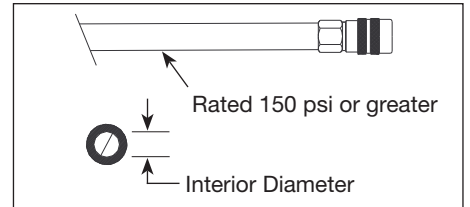

Figure 7 - Air Hose Requirements
**AIR SUPPLY HOSE:** ALWAYS use air supply hoses with a minimum working pressure rating equal to or greater than the pressure from the power source, or 150 psi, whichever is greater. Use 1/4 inch air hose for runs up to 50 feet. Use 3/8 inch air hoses for 50 ft. run or longer (see Figure 7 and Chart 2).